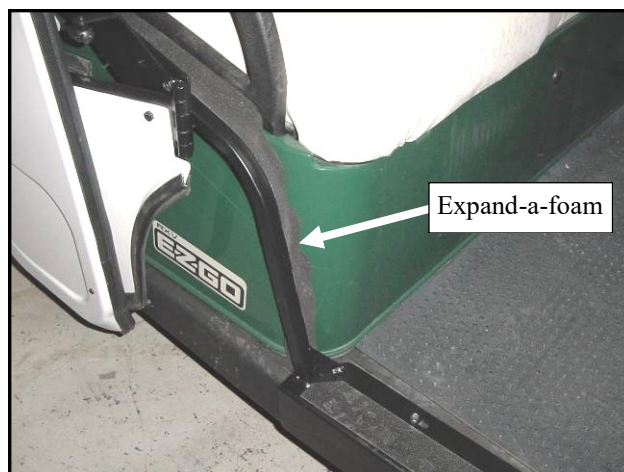

Fig. 12.1 (view from front of passenger’s side)
12.1 Per fig. 12.1, the Expand-a-foam can be tucked in neater/tighter at the installer’s discretion. Repeat for driver’s side if desired.